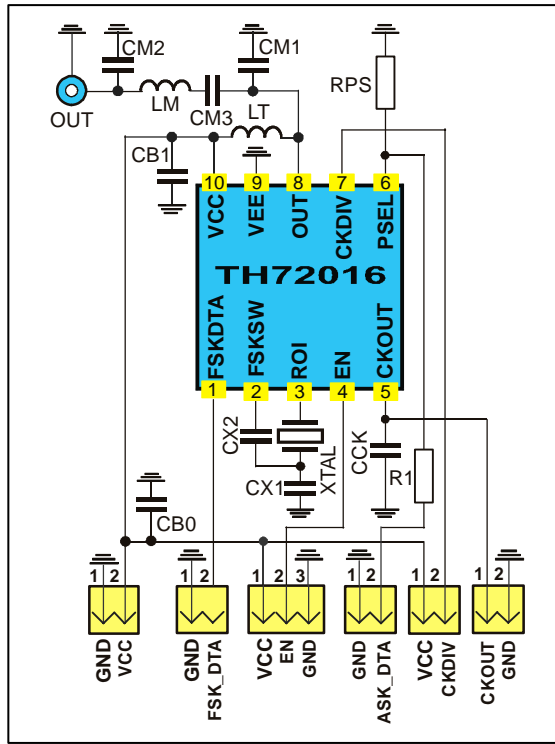

Fig. 6: Test circuit for FSK and ASK with 50 Ω matching network
typical values at $T_A = 23\text{ °C}$ and $V_{CC} = 3\text{ V}$; test circuit shown in Fig. 6, $f_c = 433.92\text{ MHz}$
typical values at TA = 23 °C and VCC = 3 V; test circuit shown in Fig. 6
5.1 Test circuit component list to Fig. 6